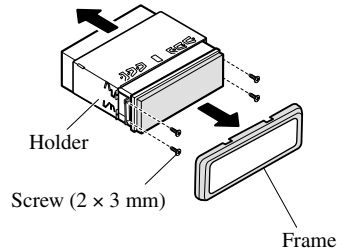

Fig. 12
- **Remove the frame and the holder. (Fig. 12)**